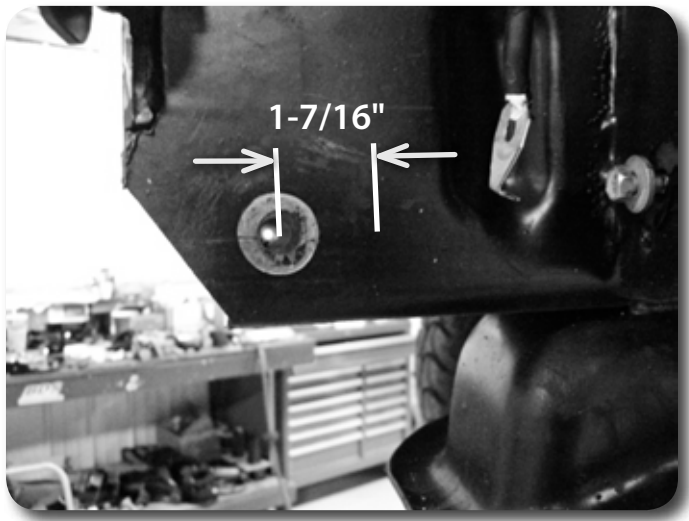

Figure 12
22. Locate the factory tow hook mount holes in the front of the frame rails. The driver's side of each frame rail will only have one tow hook hole. Measure straight back from the center of the existing hole  $1\text{-}7/16$ " and mark. **Figure 12** Drill a  $1/2$ " hole at the mark (one hole per frame rail).